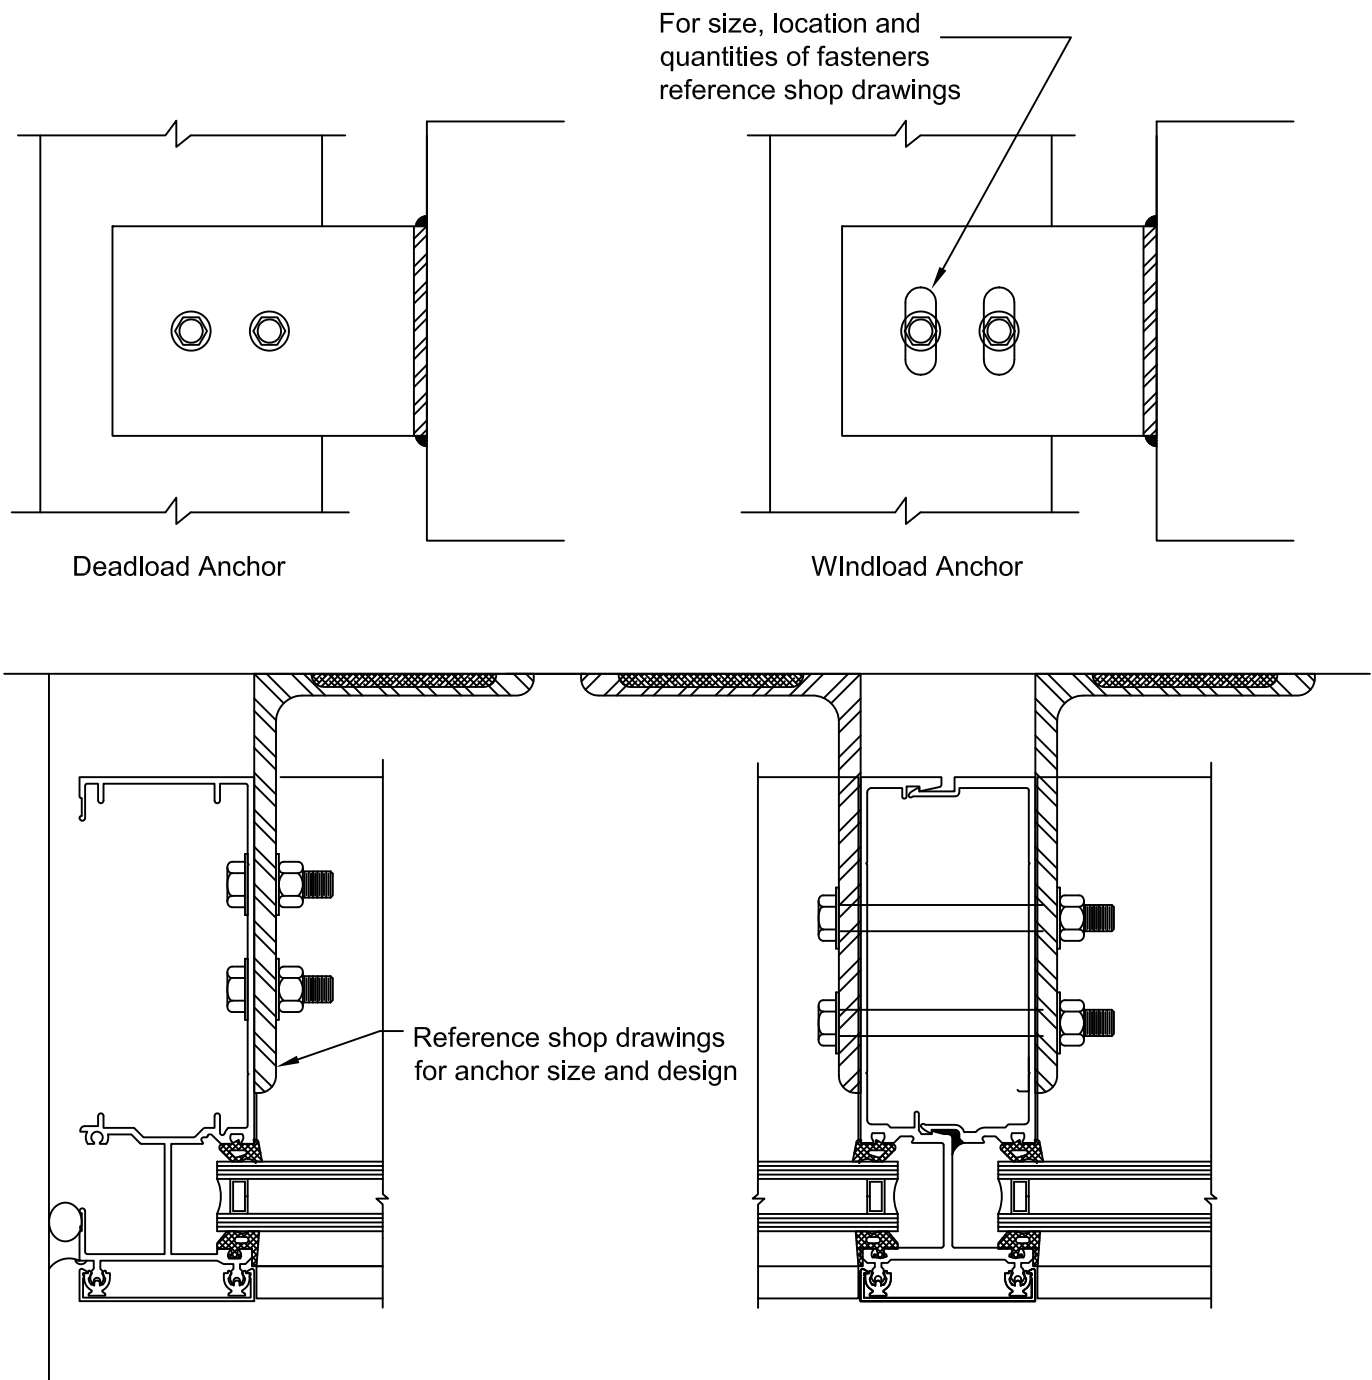

FIGURE 19
- 3.10 Mid span anchors will be located based on engineer's calculations. Typical anchors are shown in FIGURE 19. Size and design of anchor, as well as, bolt size and quantity to be based on project requirements and engineer's calculations.